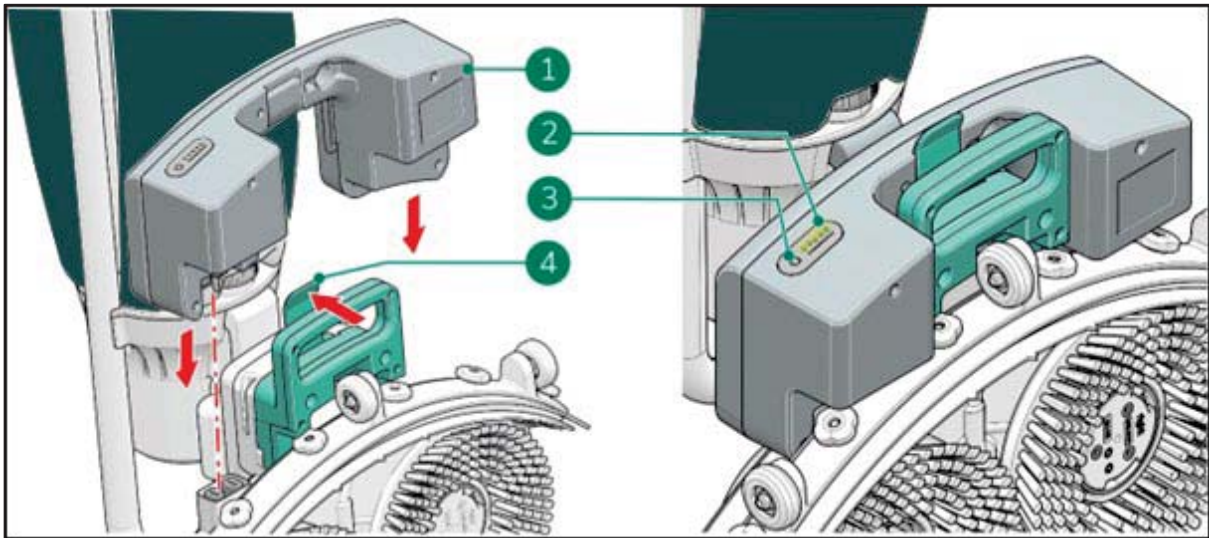

Figure 13
2. Push the battery (Figure 13, pos 1) in the battery slot. A click indicates that the battery is locked in place by the retaining clip (Figure 13, pos 4).
3. During operation, you can check the amount of power left (Figure 13, pos 2) by pressing the power indicator (Figure 13, pos 3) on the battery.